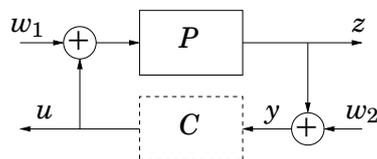

Figure 7 Model I
The model used in the design will be chosen as one of the models depicted in the block diagrams in Figure 7–9. The signals w_1 and w_2 are independent Gaussian white noise processes with variance 1.
- a. Which of the block diagrams in Figure 7–9 results in the controller with the best robustness to *measurement noise* at frequencies around ω_0 . Motivate your answer! (1 p)
- b. Which of the block diagrams in Figure 7–9 results in the controller with the best robustness to *load disturbance noise* at frequencies around ω_0 . Motivate your answer! (1 p)
- c. Which of the models in Figure 7–9 will result in the controller that gives the **largest** value of $|S(i\omega_0)P(i\omega_0)|$, where $S = \frac{1}{1+PC}$ is the sensitivity function.
- c. In Figure 7 we have